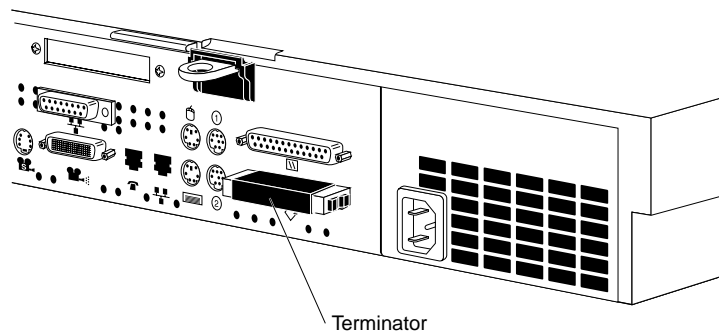

Figure 5-5 Removing the SCSI Terminator From the Indy Workstation
- If you are connecting the device to the workstation, remove the terminator from the SCSI connector on the rear of the workstation by squeezing the clips on both sides of the terminator and pulling it off, as shown in Figure 5-5. Save the terminator. You need to reconnect it to the system if you remove and do not replace the external device.